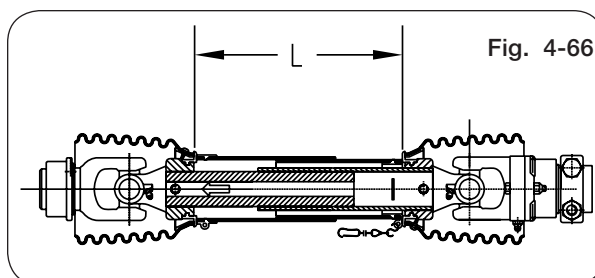

Fig. 4-66
1. Fully collapse PTO shaft and measure length "L" (Figure 4-66).